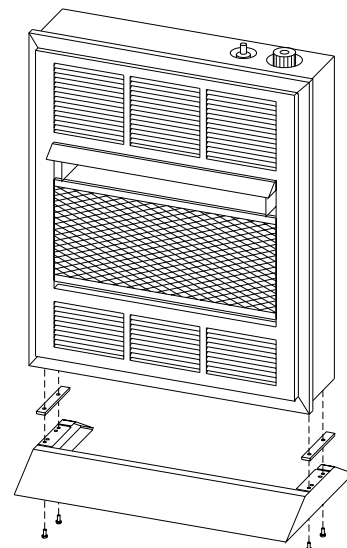

Figure 9
1. Remove (4) screws located in bottom of heater.
2. Align clearance holes on floor stand and clearance holes on spacers with screw holes on bottom of heater (See Figure 9).
3. Attach floor stand to heater with (4) #10 x 1" screws provided with floor stand.